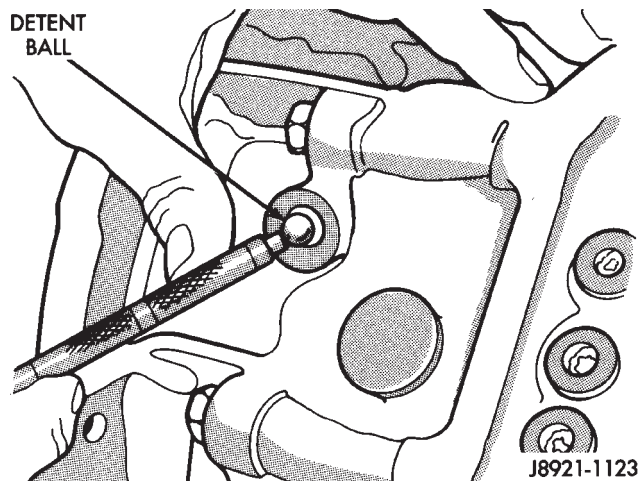

Fig. 47 Install Detent Ball
(16) Install shift detent ball in detent opening (Fig. 47).